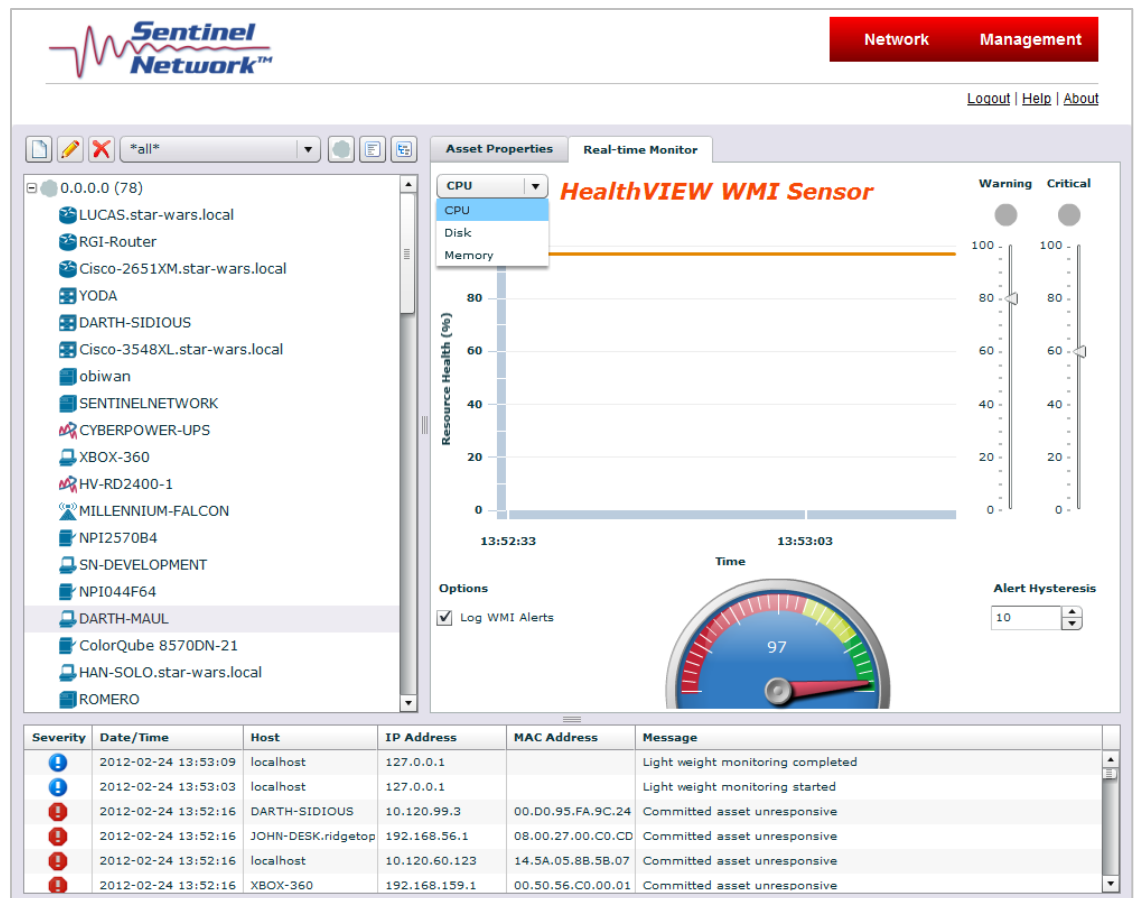

Figure 11: The CPU, Disk, or Memory menu in Real-time Monitor
3. Click the **Real-time Monitor** tab. This is showing foreground WMI monitoring. Note that the drop-down menu in the upper left corner allows you to monitor and view **CPU**, **Disk**, or **Memory** in real time (Figure 11).
If the CPU is not being used much, you should see high health values such as those shown in Figure 11.